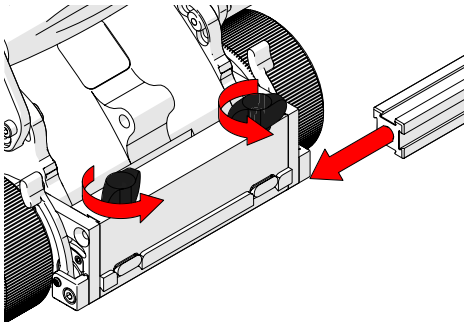
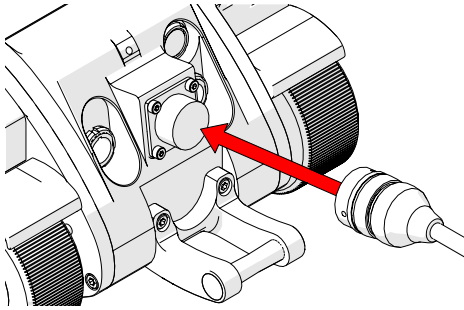

Fig. 50 - Frame bar installation
Fig. 60 - Press to umbilical connection
1. Rotate the two black wing knobs (*Fig. 50*) to loosen the dovetail jaws. Slide the frame bar along the dovetail jaws.
1. Press the umbilical to the umbilical connection of the crawler (Fig. 60).
Located on the side of the crawler, the cable retainer offers a means of cable management for cables, hoses and tubes. Gently apply pressure to the grooves of the cable retainer and lift (Fig. 50). Route cables, hoses or tubes through the retainer and then press the cable retainer down (Fig. 60).